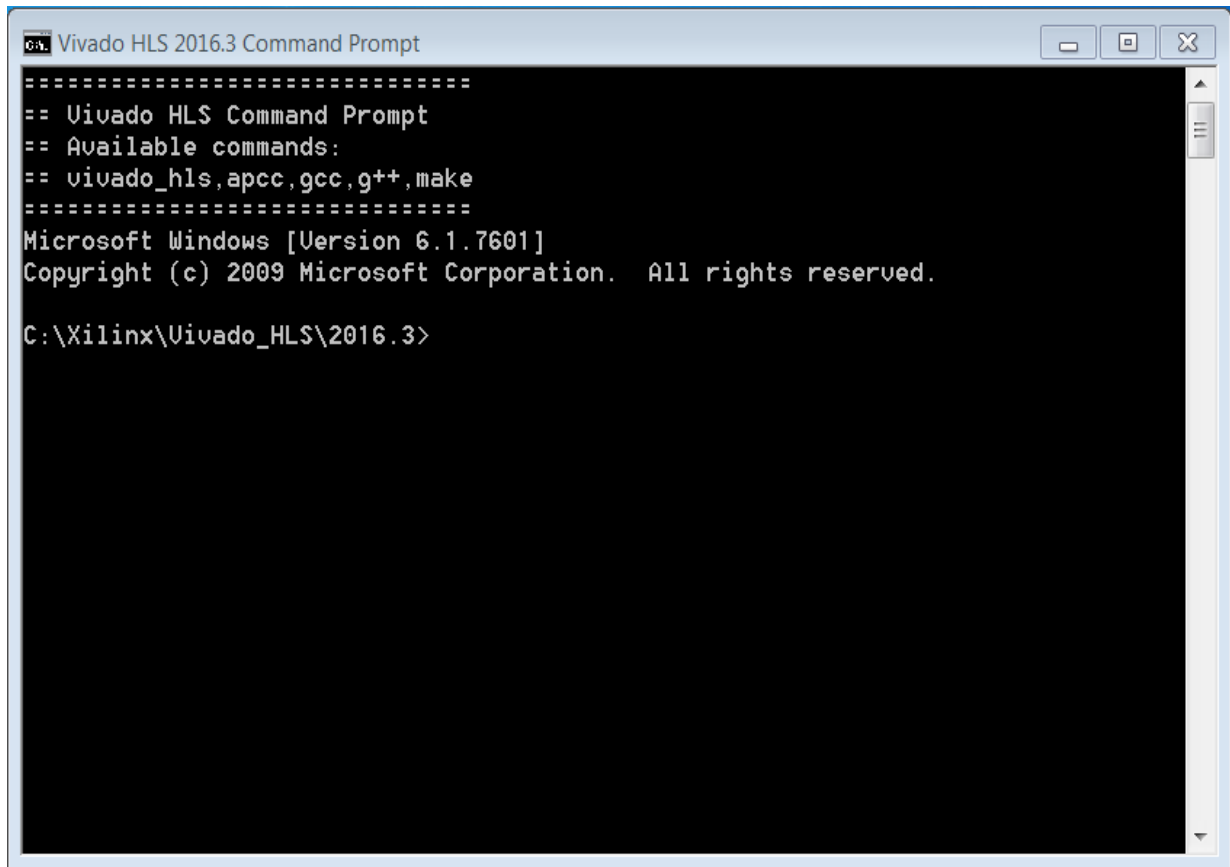

Figure 2-16: The Vivado HLS Command Prompt
- On Windows, use **Start > All Programs > Xilinx Design Tools > Vivado 2016.3 > Vivado HLS > Vivado HLS 2016.3 Command Prompt** (Figure 2-16).